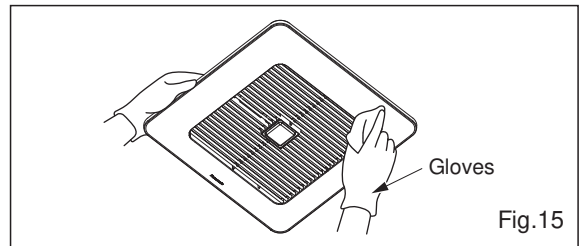

Fig.15
2. Clean grille. (Don't put into hot water. Use non-abrasive kitchen detergent, wipe dry with clean cloth) (Fig.15)